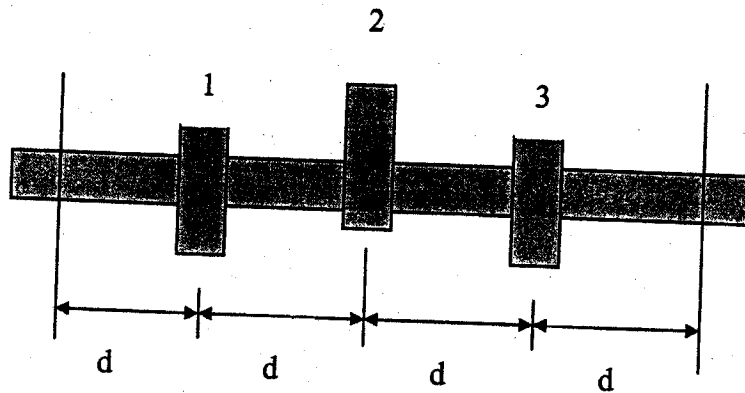

Figure 8
(b) Consider a camshaft in an engine that is supported at both ends and that operates 3 sets of valves as shown schematically in Figure 8. The cams are spaced equally from each other and from the end supports by a distance d (40 mm). If the valve opening force is known to be 10,000 N calculate the maximum stress in the camshaft when cam 2 is in operation. Discuss the acceptability of this design if the yield strength of the steel from which the camshaft is made is 1,000 MPa. Assume that the shaft is circular and that the formula for the second moment of area of a shaft is $\pi D^4/64$, where D is the shaft diameter (30 mm). (10)